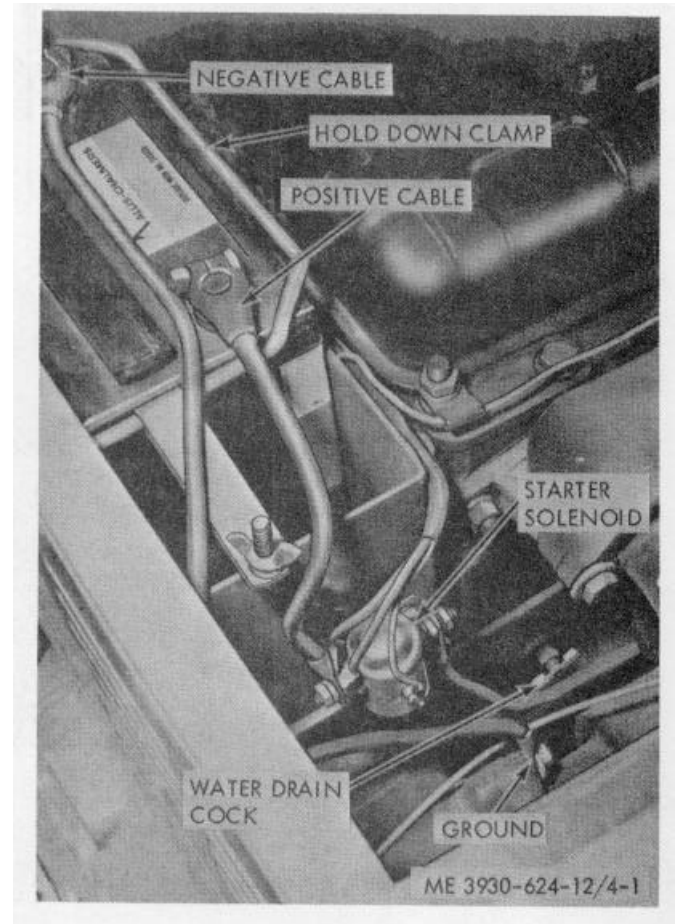

Figure 4-1. Battery connections.
(1) Remove all protective tape and any preservatives which were used to protect the equipment during shipment.
(2) Check the coolant level in the radiator; if necessary, add coolant to the required level. Refer to table 2-1 for antifreeze mixture requirements.
(3) Check the level of the engine lubricating oil; if the level is at or below the ADD mark on the dipstick add oil until the level reaches the FULL mark on the dipstick.
(4) Check the oil level in the hydraulic reservoir; add oil until the level reaches the FULL mark on the dipstick.
(5) Check the oil level in the transmission and add as necessary, refer to paragraph 3-2 f.
*c.* Connect the battery cables to the corresponding battery posts as shown in figure 4-1.